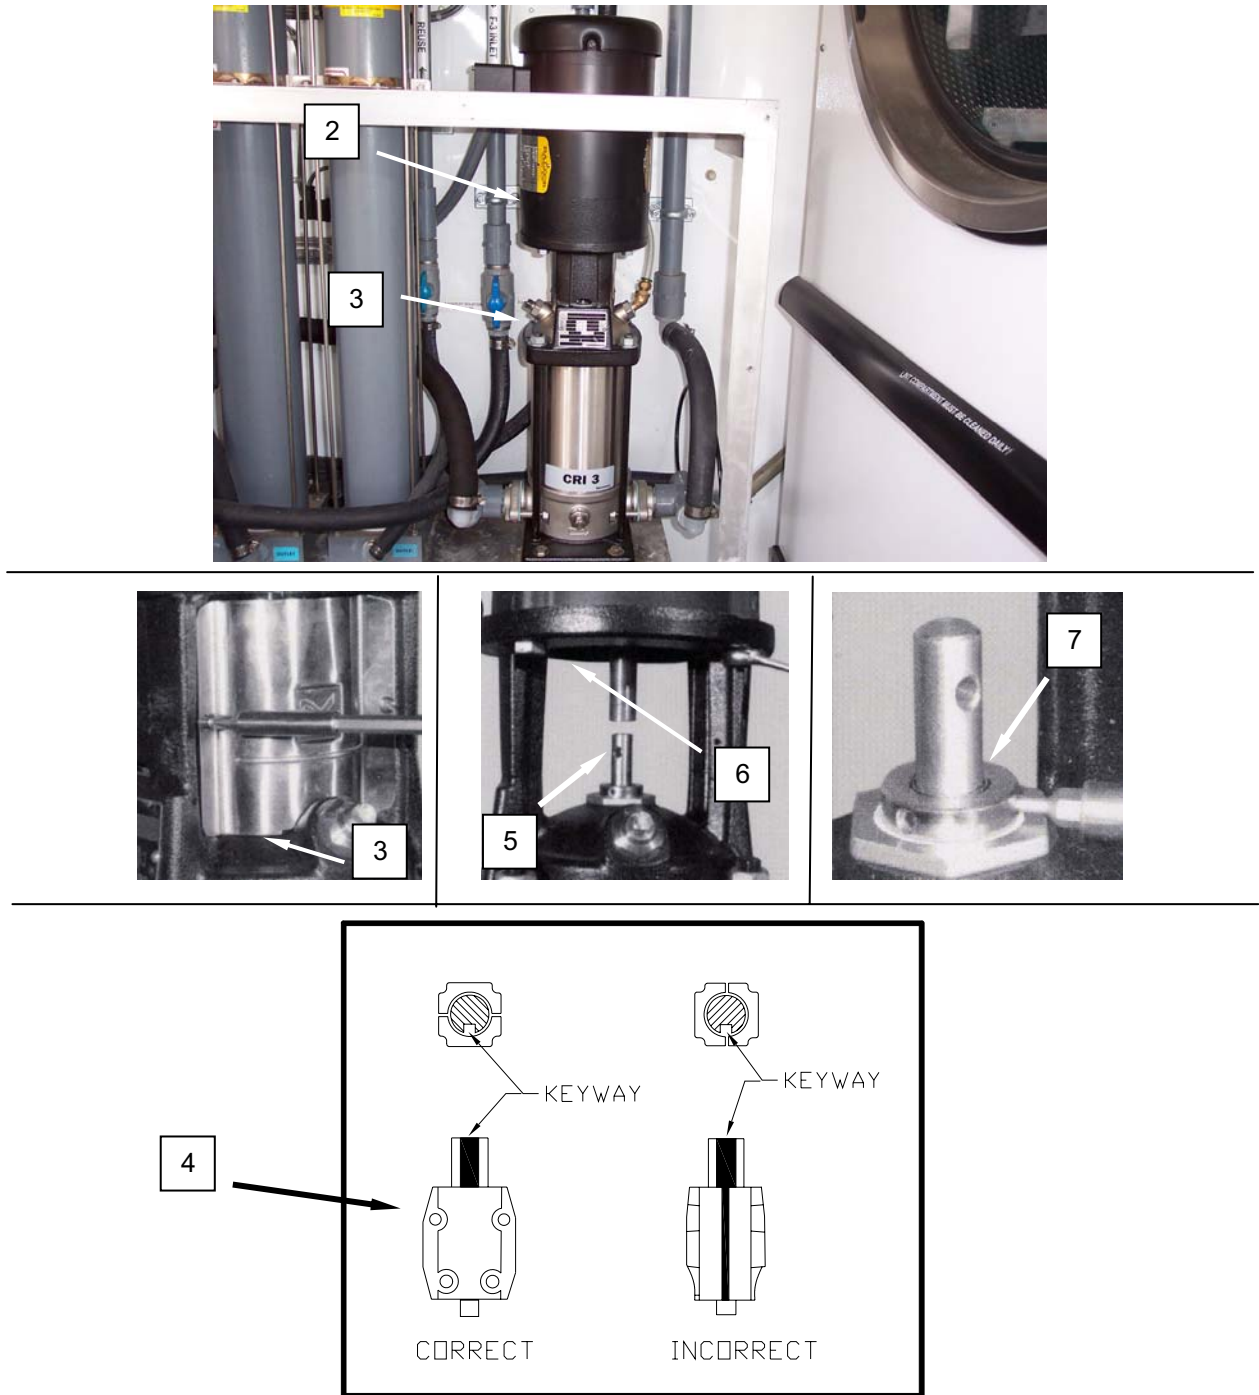

Figure 2. Replace the Pump Seal.
2. Remove the screws retaining the coupling guard (**Figure 2, Item 3**) and remove the coupling guard.
3. Remove the bolts securing the coupling halves and remove the coupling (**Figure 2, Item 4**).
4. Remove the coupling pin from the pump shaft (**Figure 2, Item 5**).
6. Remove the bolts retaining the motor (**Figure 2, Item 2**) to the motor stool (**Figure 2, Item 6**) and remove the motor.
7. Loosen the three screws securing the cartridge seal (**Figure 2, Item 7**) and unscrew the cartridge seal from the motor stool (**Figure 2, Item 6**).
8. Install a new O-ring onto the cartridge seal (**Figure 2, Item 7**) and install the cartridge seal. Do not tighten the setscrews.
9. Install the motor (**Figure 2, Item 2**) onto the motor stool (**Figure 2, Item 6**) and retain with bolts.
12. Install the coupling pin into the pump shaft (**Figure 2, Item 5**).
13. Install the coupling halves (**Figure 2, Item 4**) and secure in place with bolts. Align motor shaft keyway (**Figure 2, Item 4**).
15. Install the coupling guard (**Figure 2, Item 3**) and retain with screws.